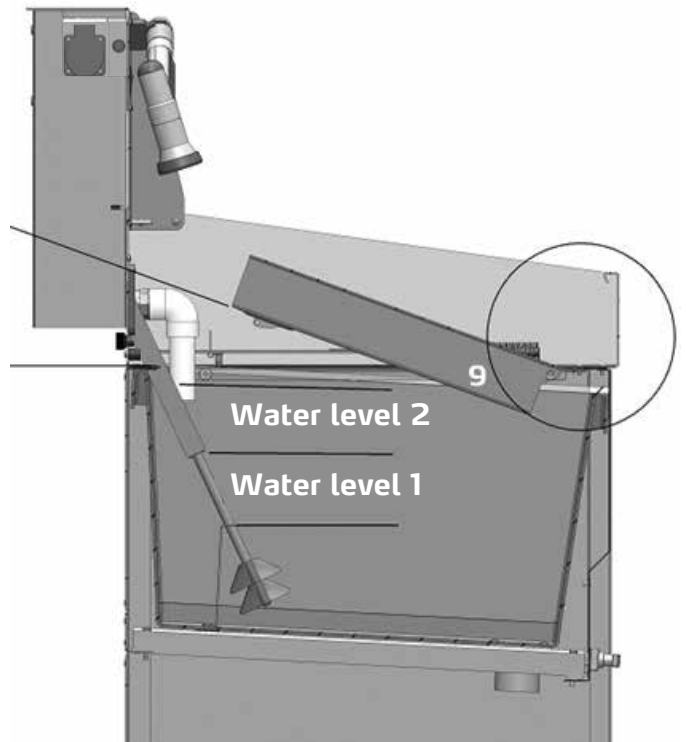

Fig. 4
- Clean rollers in the roller prewash basin (scope of delivery in ColorFree TOP Set) (9) Fig. 4
Before the washing water can be treated during further operation, a minimum water level must be available (water level 1) Fig. 4.
See figure 4. The tank with the mounting brackets (9) is placed at an angle of about 20° diagonally on the mounting spigots.